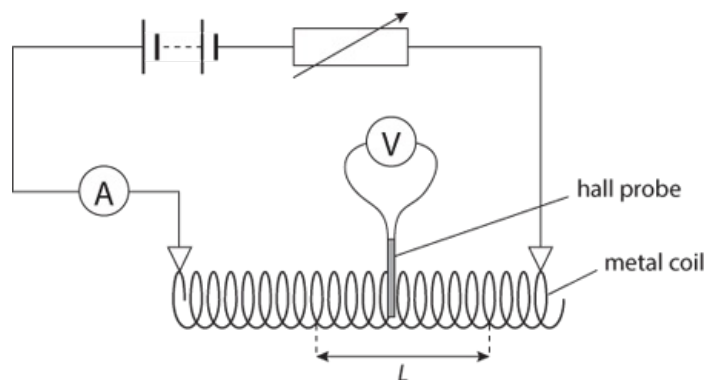

Figure 14.5: Circuit diagram.
- 1 Set up the coil as shown in Figure 14.5. You will need to make sure that the Hall probe is connected correctly.